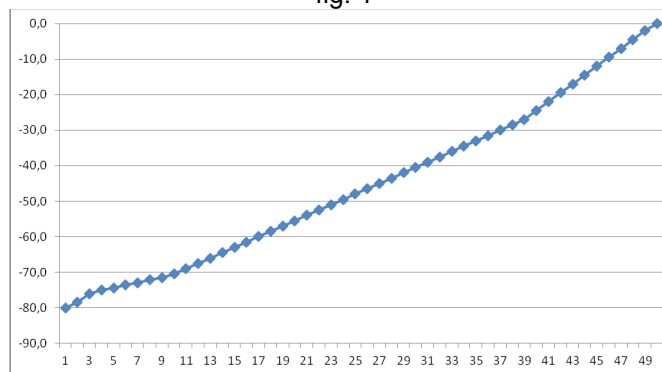

fig. 2
2. Volume Scale #2 – This setting is thought for high efficiency loudspeakers (fig. 2)